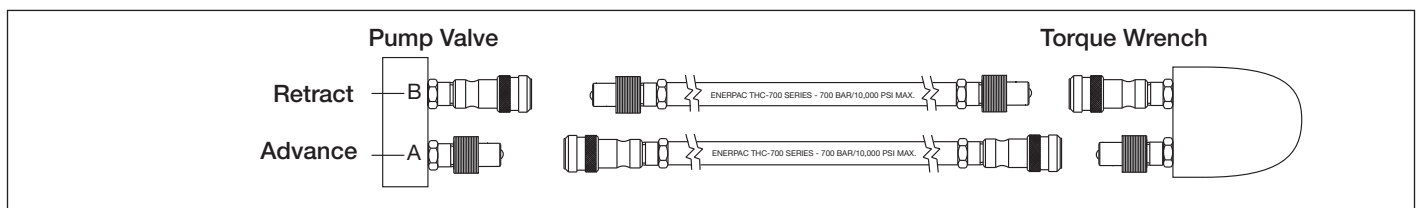

Figure 5
Connect hoses as shown in Figure 5.
1. Pump type for Enerpac Sx, Wx, RSL, HMT, and DSX torque wrenches and other brands. Use hoses marked "Enerpac THQ-700 series-700 bar/10,000 psi max.". Couplers must be polarized per figure 5 for correct wrench operation. Ensure couplers are fully engaged and tightened before operating. Partial coupler engagement will prevent proper wrench operation.